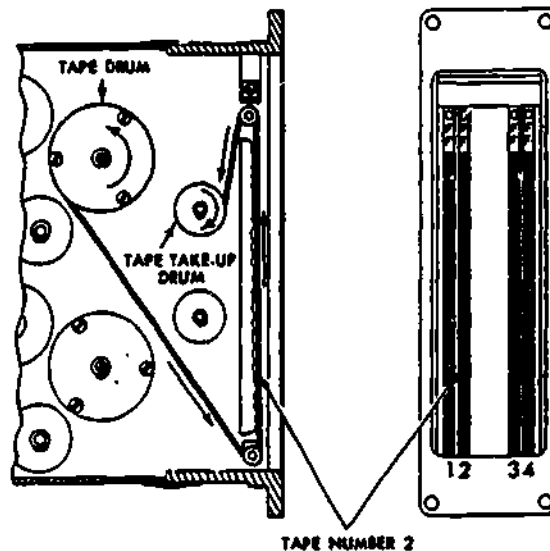

Figure 11.
The tape is mechanically positioned by the gear train and two tape drums. The tape threading route and the tape drums are shown in figure 11. When the gear train is turned by the servomotor, the tape drum rotates in the direction shown. The small take-up drum rotates at the same time, in the direction shown.
Refer to figure 11 to complete the following statement. Circle the letter preceding the correct alternative.
1. The tape shown in figure 11 is tape number